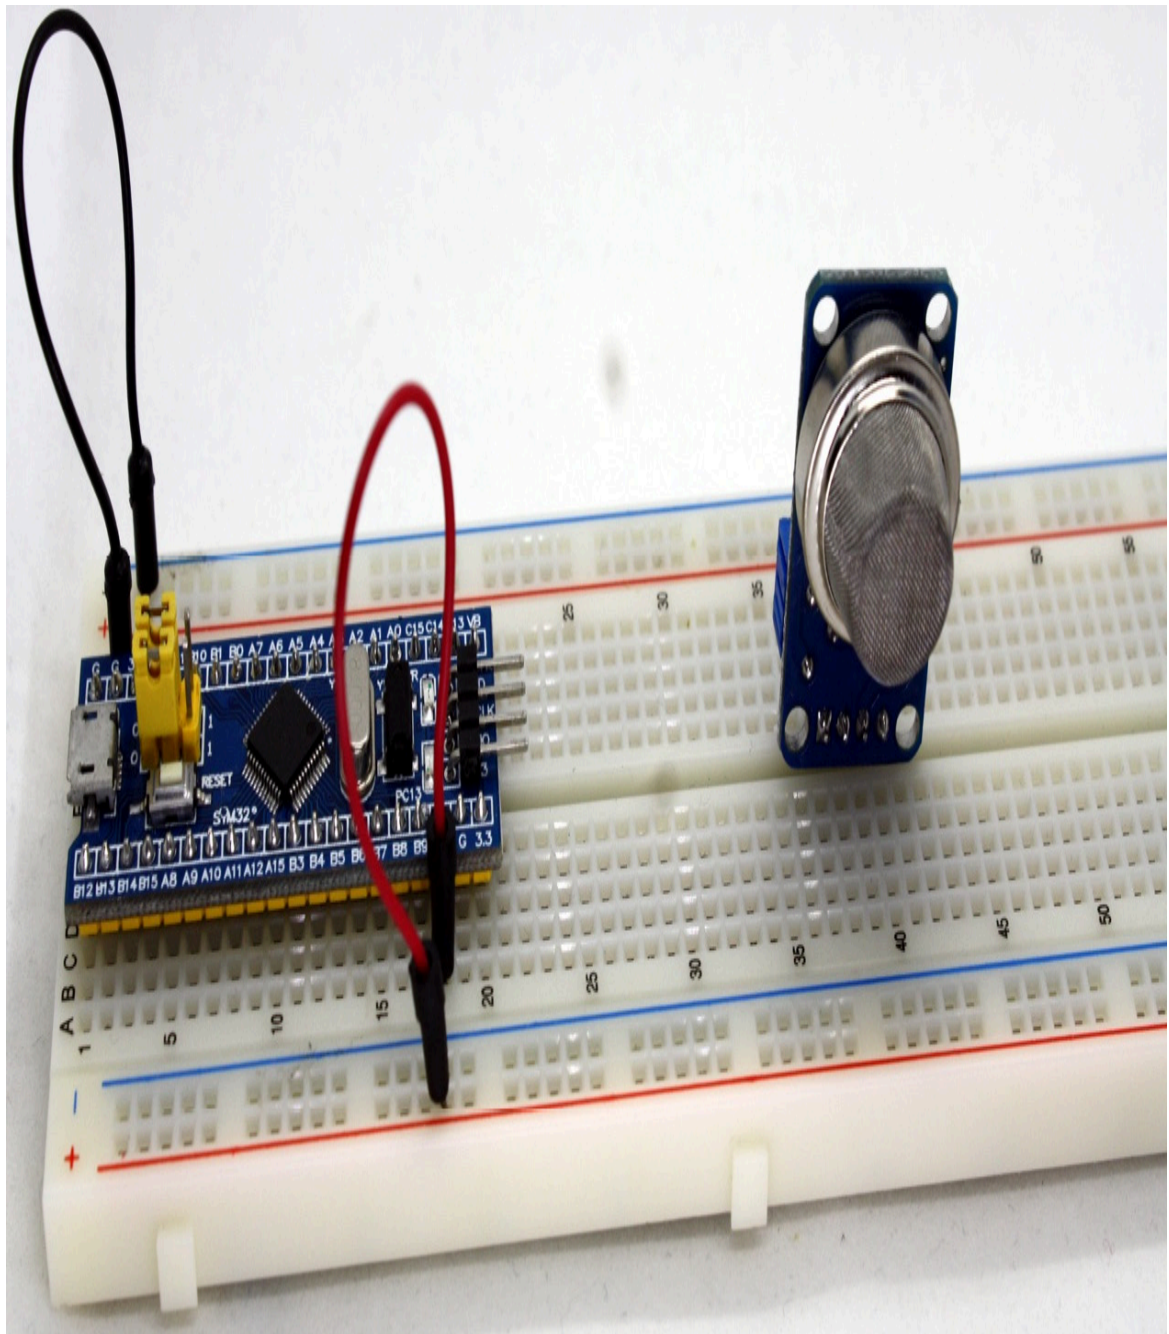

Figure 8.3 – Connections to the power supply
**pin** to the blue track, as shown in *Figure 8.3*: